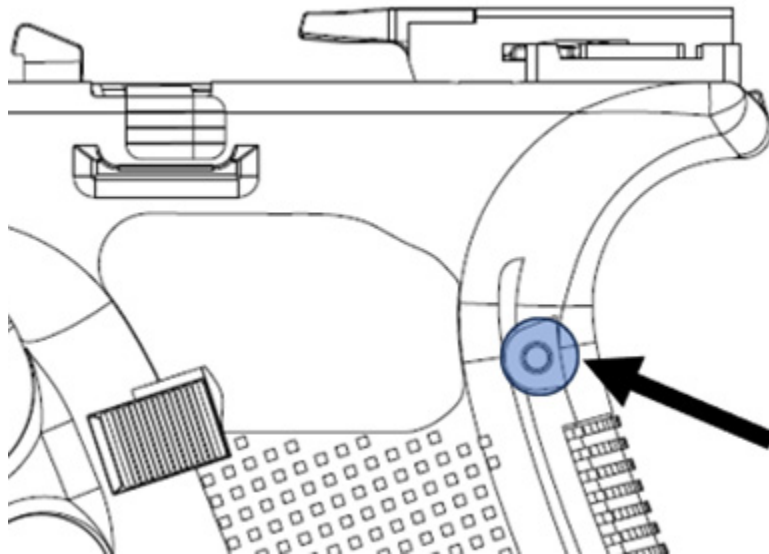

Figure 44: Location of the Trigger Housing Pin.
d) Punch out the Trigger Housing Pin. Press the Trigger Housing Pin from the left and remove it from the right using the Glock Punch Tool (Figure 44).